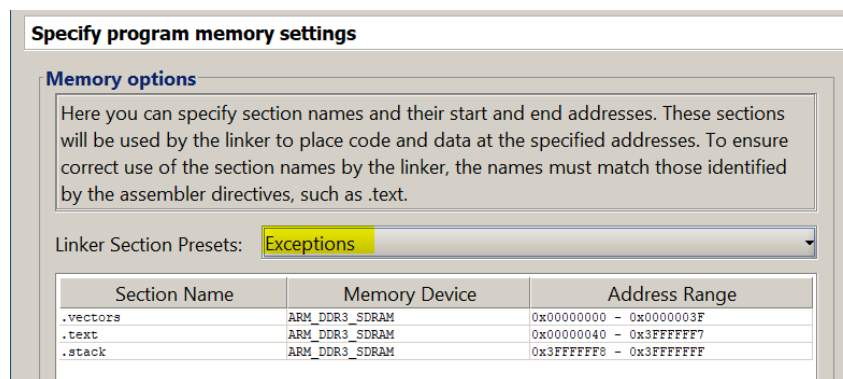

Figure 1: Choose Exceptions for Linker Section Presets
- Make a new project in the Monitor program. During the process, add the given C files (only) to the project. Make sure the top-level file `interrupt_example.c` appears first on the list when adding files. Header (.h) files should stay in the project folder or a path searchable by the compiler. This is required for all projects. When you reach the last screen illustrated in Figure 1, make sure to choose **Exceptions** in the Linker Section Presets drop-down menu.